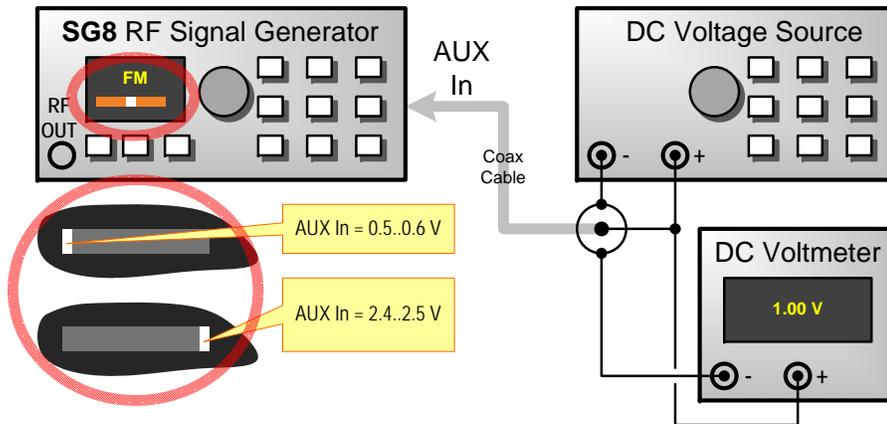

Figure 12: AUX In test setup
1. Connect the instrument as shown in figure 12.
4. Adjust the DC voltage from 0.5..0.6 V to 2.4..2.5 V, mean value indicator should shift from left side to the right (see fig. 12). If so, the test is passed.